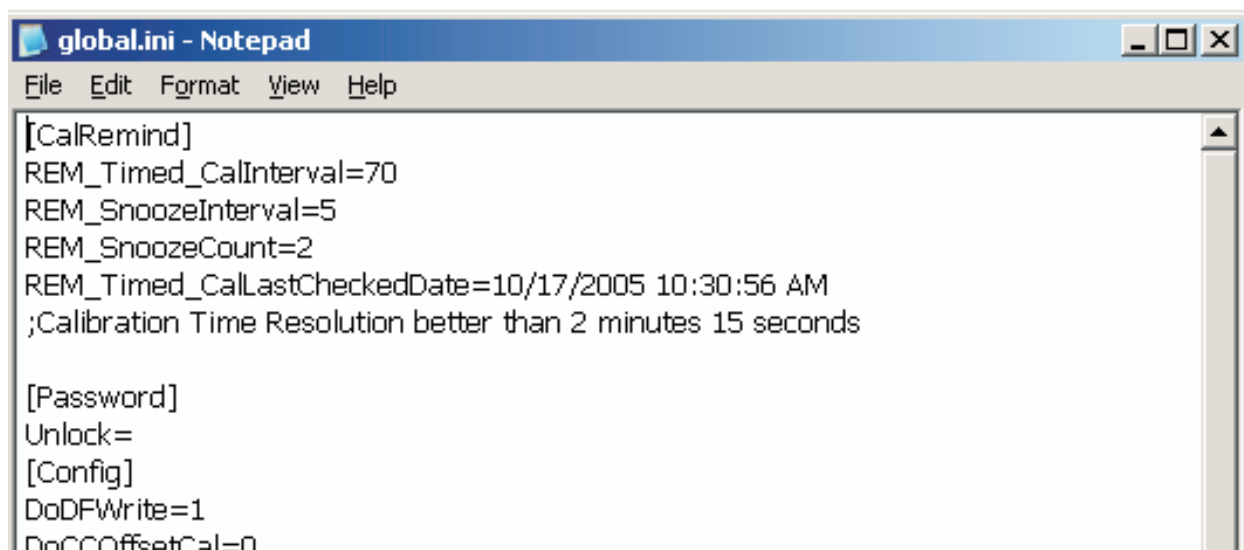

Figure 14. Global.ini file
26.7.161.65 Next Calibration Due The *Next Calibration Due* Indicator indicates when the Multi-Station software will require a calibration of the Voltage, Current, and Temperature references due to timeout of an adjustable software timer in the global.ini file as shown in Figure 14. There are 3 adjustable values of interest in this file under the [CalRemind] Header:
Default settings are shown in Figure 14. With these settings the interval time will be 70 minutes. There will be 2 reminders prior to the 70 minute expiration. Each of these reminders will be 5 minutes apart so one will be at 60 minutes and the next would be at 65. Then at 70 minutes the *Start* button will be disabled until VTI Calibration Verification is performed. Adjustments can be made to this file to modify these settings. Caution should be taken when modifying the global.ini file. Only change the numbers beside the values. Any other changes could cause unpredictable results.